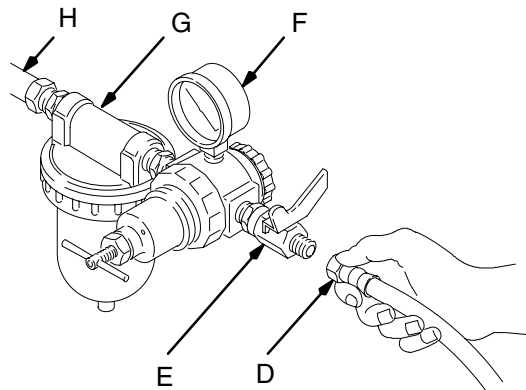

Fig. 4 _____ 01990
- You must install an air pressure regulator (F) on each gun air line to control air pressure to the gun. See Fig. 4.
- If your regulated air source does not have a filter, install an air filter (G) on each air line to ensure a dry, clean air supply to the gun. Dirt and moisture can ruin the appearance of your finished workpiece. See Fig. 4.
- Install an air shutoff valve (E) on each gun air supply line, downstream of the gun air regulator, to shut off air to the gun.